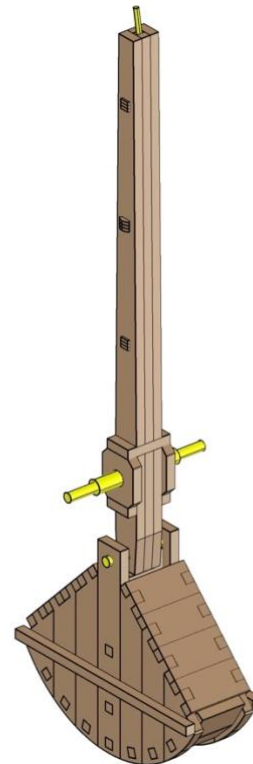

Fig. 65
- *Fig. 65* shows the completed process.